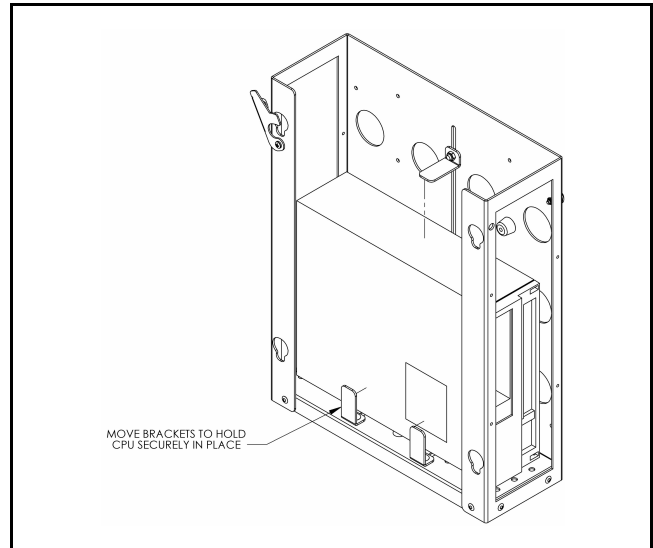

Figure 7
4. Turn adapter on its end. (See Figure 7)